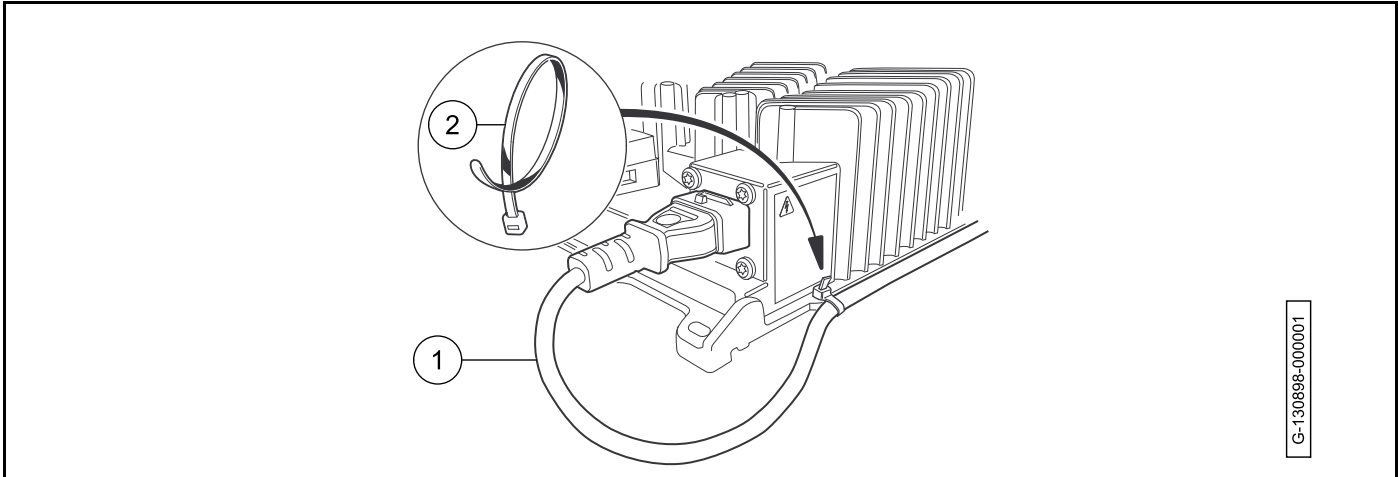

Figure 15-2 Strain Relief and Drip Loop
1. Connect the AC cord (1) into the AC plug (**Figure 15-2, Page 15-8**).